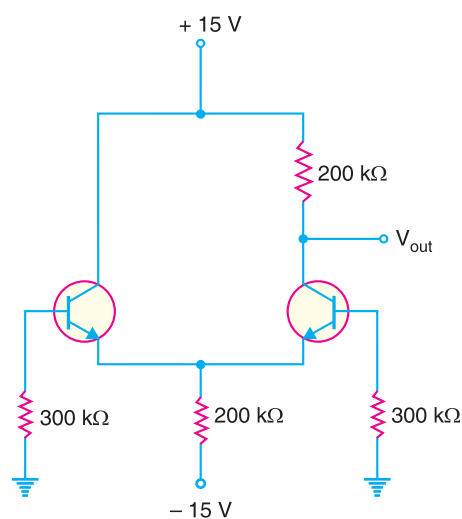

Fig. 25.97
1. In Fig 25.97, the transistors are identical with $\beta_{dc} = 200$. What is the output voltage? [7.5 V]
2. In Fig. 25.97, the left transistor has $\beta_{dc} = 225$ and the right transistor has $\beta_{dc} = 275$. What are the base voltages?